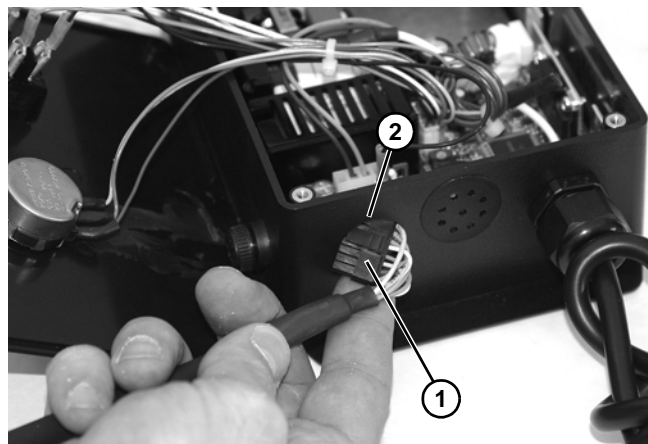

Figure 12
6. Turn connector (Figure 12, item 1), as shown, and remove wiring and connector through controller opening (Figure 12, item 2).